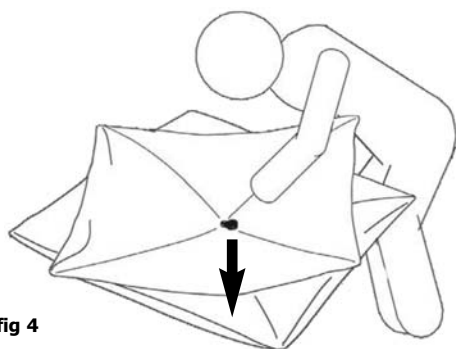

fig 4
Step 4: With an open palm, push center hub of roof. The tension will begin to lessen (fig 4).